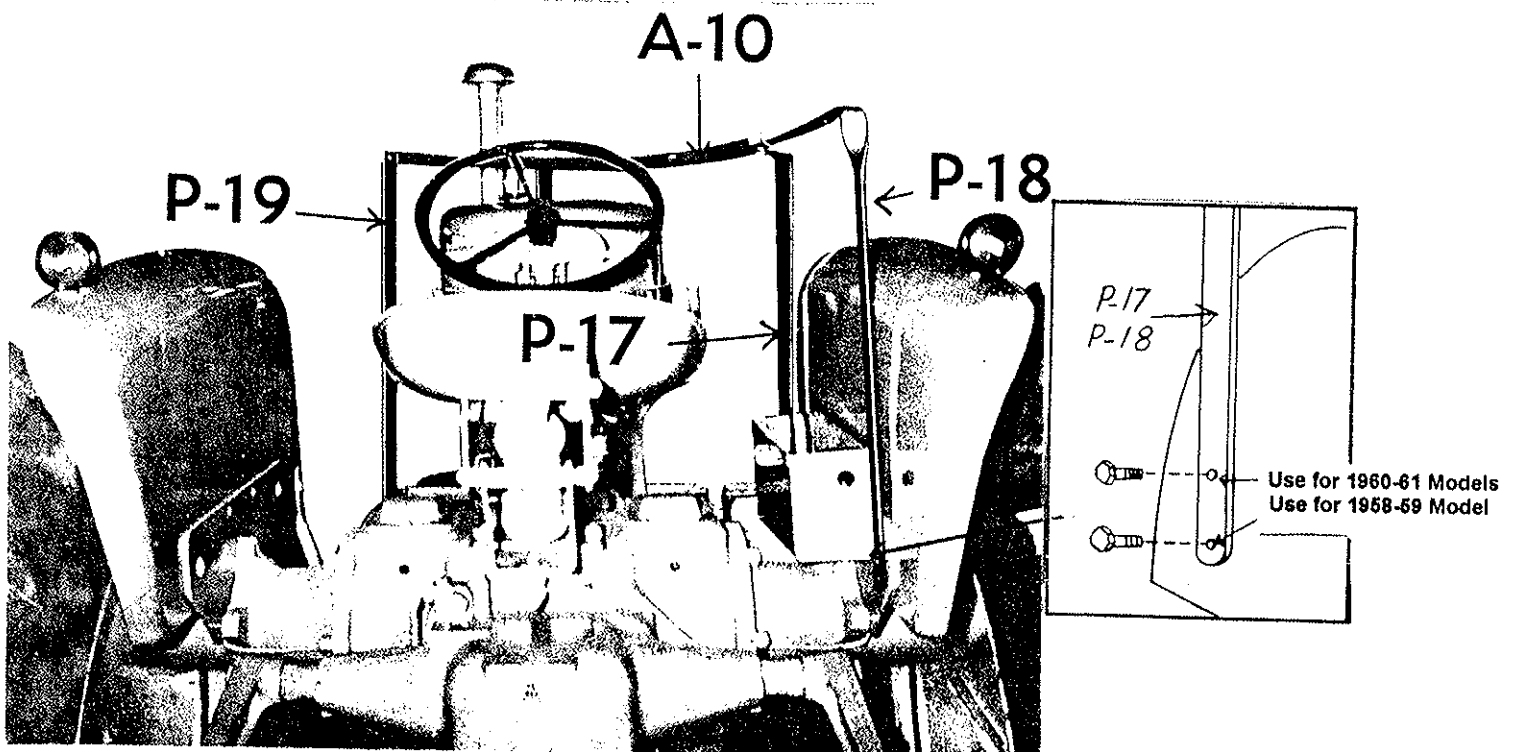

Figure 5
8. Insert the A-10 Yoke in hem at top of canvas and bolt to the P-33 steering column mounting bracket. Also bolt ends of A-10 yoke to the P-18 right side arm, P-17 right upright and P-19 left upright or door support. Frame work is then joined as shown in Figure 5. Tighten all loose hardware.